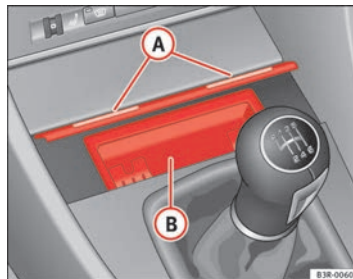

Fig. 122 Centre console: Open ashtray
- Lightly press the front part of the ashtray (A) ⇒ fig. 122.
- Take hold of the sides of the ashtray (B) ⇒ fig. 122 and lift it out. ►